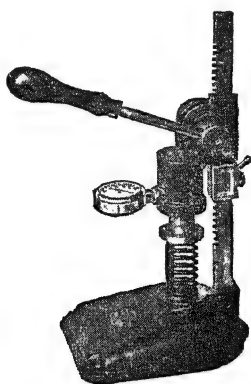

Fig. 34. Testing Valve Spring with Stevens
**Valve Spring Tester.** The Stevens valve-spring tension tester is shown in Fig. 34. It is a simple device which registers the number of pounds pressure demanded to set the valve spring to the predetermined size as shown by the gauge. Most car manufacturers furnish specifications relative to the pressure required to set the springs on their product to the point which represents open valve conditions. This dimension is stated in inches.